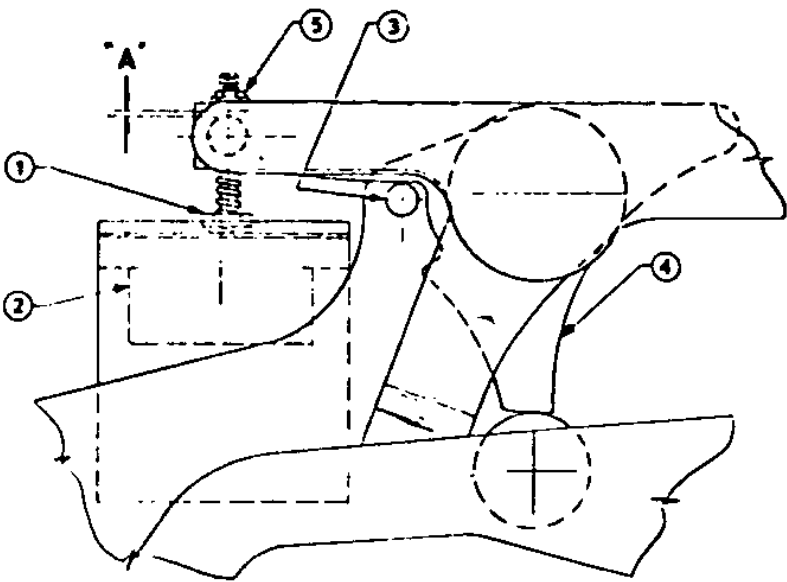

Fig. 7 — Latch Check Switch Adjustment
5.9 OPERATING MECHANISM (see Figure 7)